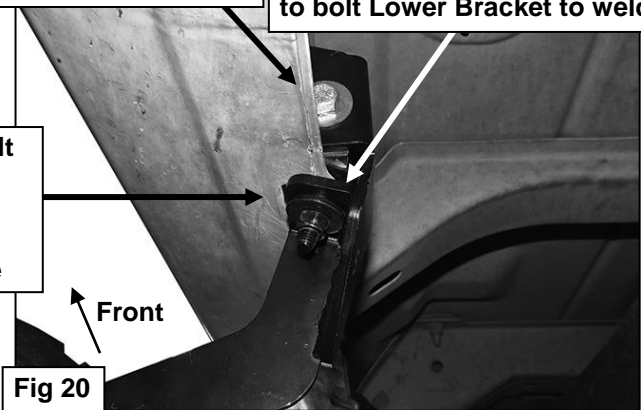

Fig 20
10. Line up the side tab on the Lower Bracket with the threaded hole in the side of the Upper Bracket. Attach the Lower Bracket to the Upper Bracket with (1) 8mm x 25mm Hex Bolt, (1) 8mm Lock Washer and (1) 8mm Flat Washer, **(Figure 20)**. Leave loose at this time.
11. Repeat **Steps 1—3** for the (2) remaining passenger side Bracket installations. **NOTE:** Cradles on Brackets installed on passenger side will face forward.